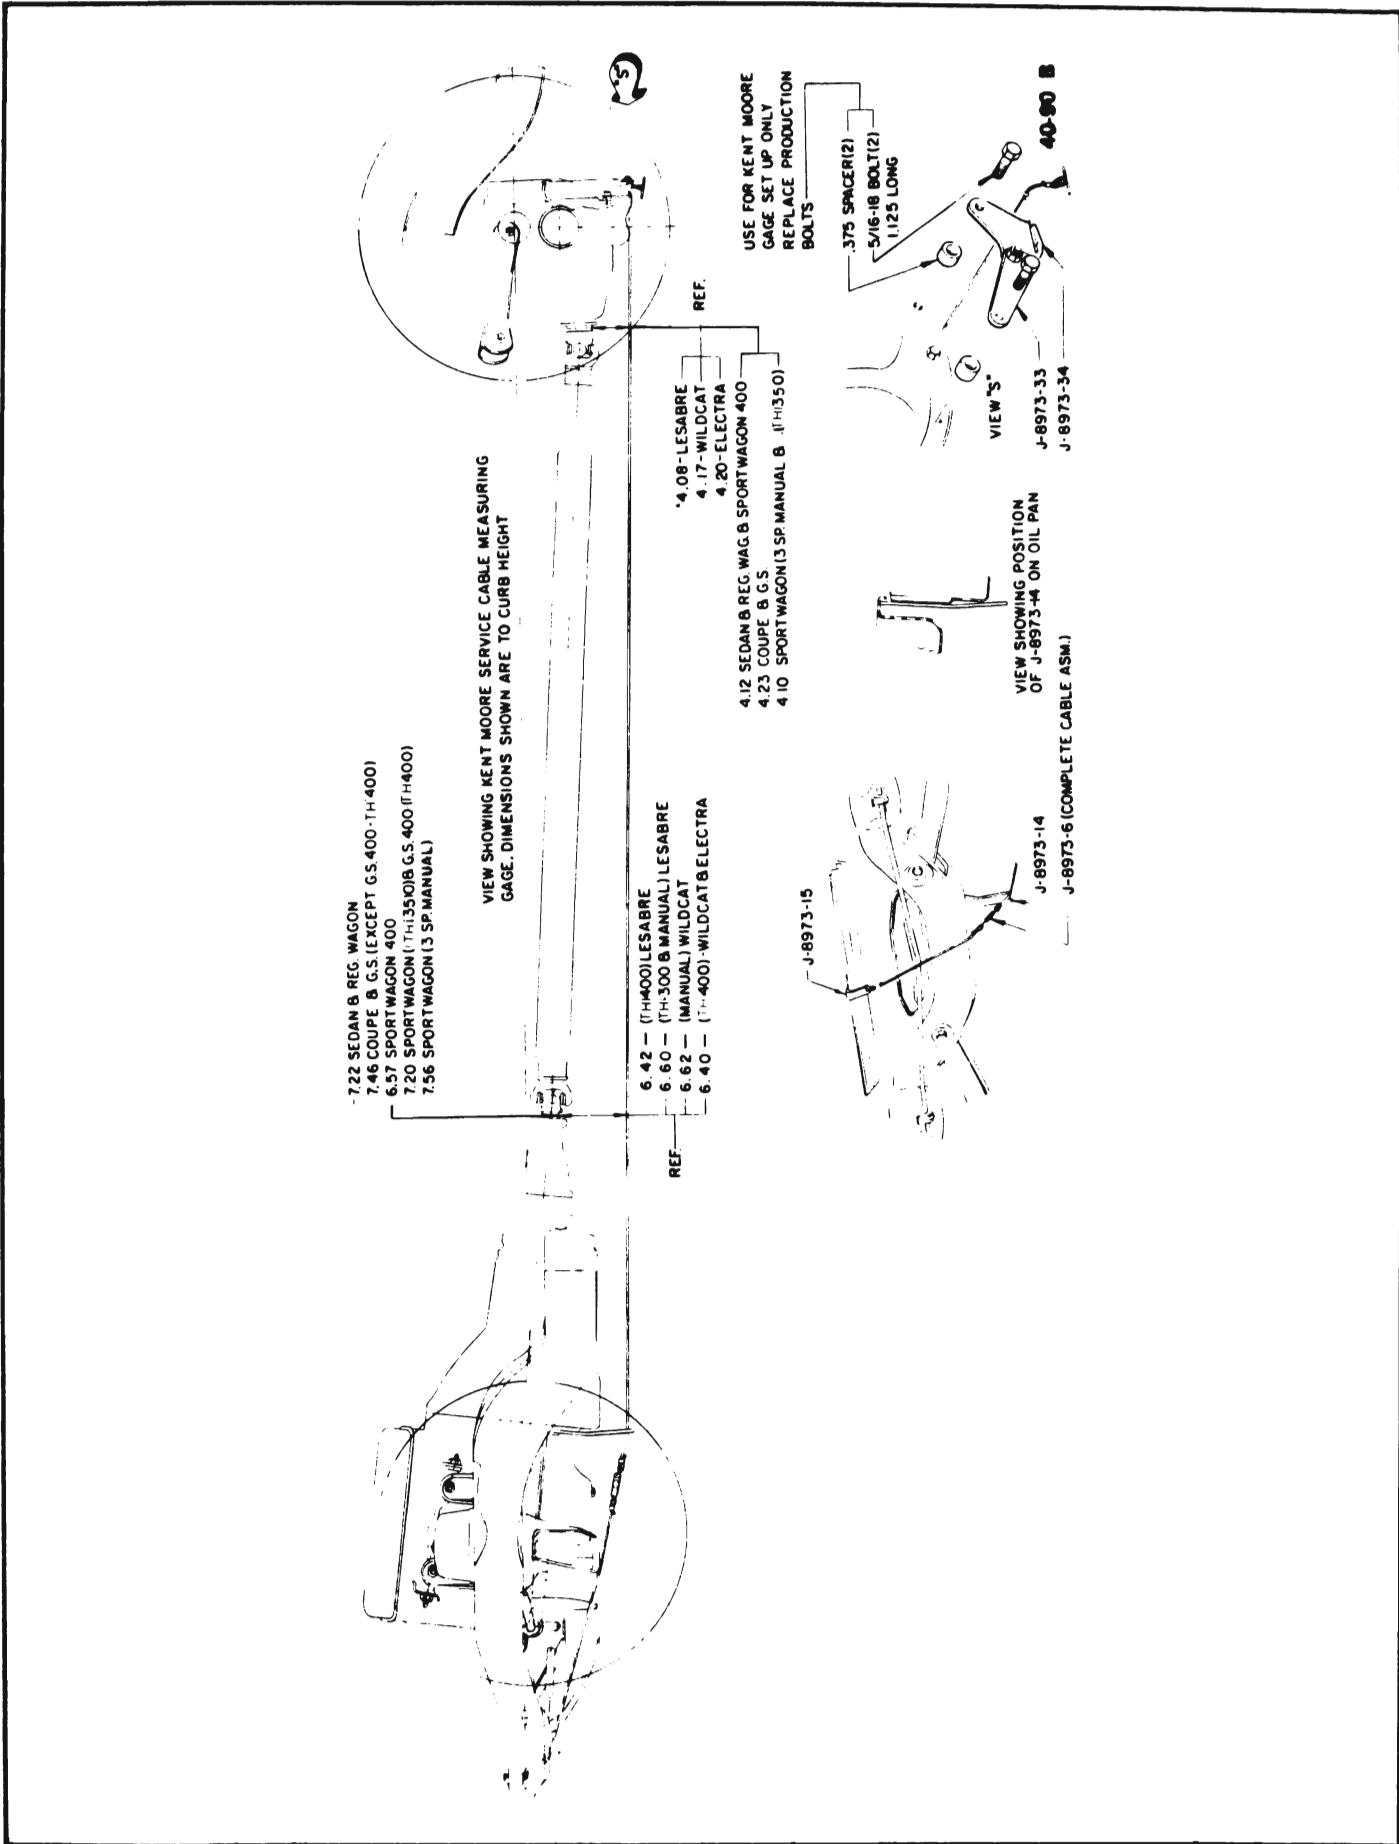

Figure 40-55 - Checking Universal Joint Angle
NOTE: Use same blocks for Station Wagons and Sedans. See Figure 40-55.
3. Engage front attaching Bracket J-8973-15 in lower opening of vertical center support assembly located at front of radiator. Hook bracket into bottom of opening. See Figure 40-55.
4. Place Engine Height Plate J-8973-14 so that the upper end bears against the engine oil pan between the two rear oil pan bolts. See Figure 40-55. Place the cable in notch of height plate, pull cable tight and hook into rear bracket so one of the stops on the cable is to the rear of
5. Measure perpendicular distance from cable to surface immediately in front of slinger on rear pinion flange. The correct dimension is given in Figure 40-55.